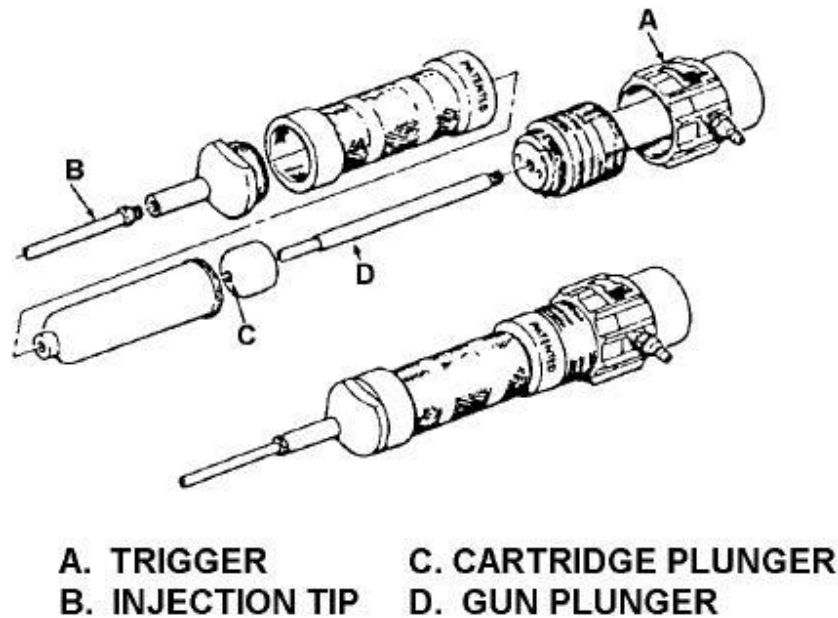

Figure 2-15. High-pressure injection gun (curing sealant).
The two-part sealant injection gun forces two-part sealant into voids and channels, and the filleting gun (fig. 2-15) can furnish other areas where a higher pressure is required. The injection gun is larger and heavier than the filleting gun, but it uses the same type disposable cartridge used in the filleting gun. The cartridge plunger (C) has a removable plug that lets the gun plunger (D) pass into the cartridge. The injection gun uses an injection tip (B) that attaches to the gun barrel instead of the cartridge. When the trigger (A) is pressed, sealant comes out of the gun with a force that is about 50 times greater than the air pressure being used. Therefore, the ratio of input to output pressure is 50 to 1. With air supply line pressures from 25 to 125 psi, the gun puts out sealant pressures between 1,250 and 6,250 psi. Injection tips are commonly available in 3/16-, 1/8-, and 3/32-inch orifice size. They must be completely cleaned after each use, before the sealant on the tips cures, with cleaner rods of the same size as the tip orifice, using cleaning solvent. Certain special tips are used for some aircraft, and these tips are made specifically for use on that aircraft. The tips can be found in the manufacturer's list of special tools or tool kits for each aircraft.